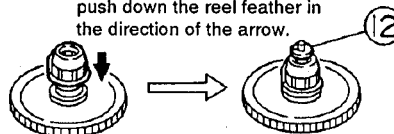

Fig. 4-16
■ Reel disk ass'y (See Fig. 4-16)